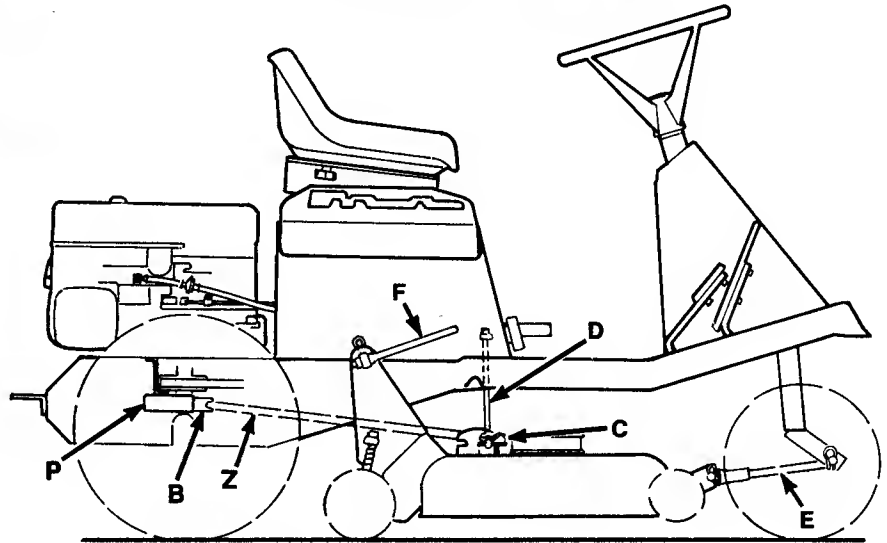
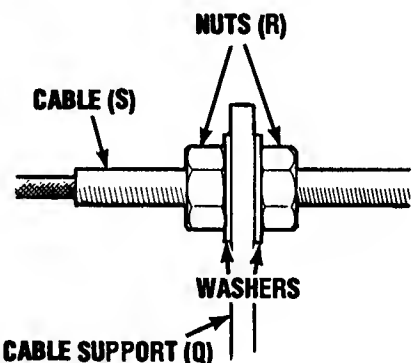
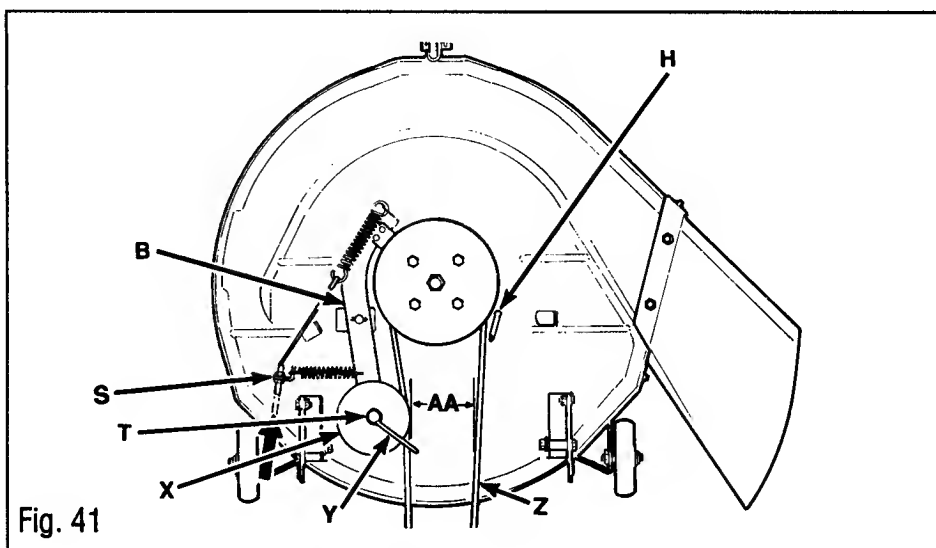

Fig. 39
Fig. 40
Fig. 41
1. Remove belt guide (P, Fig. 39)
3. Remove the belt from the engine pulley (B). It may be necessary to turn the differential to remove belt.
4. Remove hitch pins (C) and disconnect lift rods (D).
5. Remove hitch pins and disconnect pivot rods (F) from lift plate.
6. Disconnect mower drive cable cable (S, Figs. 41, 42 & 43 on the following pages) from spring (H). Loosen nuts securing cable to cable support (See Fig. 40). Remove cable from deck.
7. Remove clevis pin from the front of rod end (E, Fig. 39), releasing mower.
8. Slide mower out from under the tractor. Swing the lift rods (D) forward or backward to allow for easy removal.
1. Remove belt guide (P, Fig. 39) and loosen guides (Y & H, Fig. 41 on following page).
2. Rotate idler arm (B, Fig. 41) away from mower sheave and remove old belt.
3. Install new belt (Z) under belt guide (Y) on pulley (X).
4. Re-tighten idler pulley bolt (T). Make sure guide (Y) is in approximate position as shown.
5. Assemble belt onto engine sheave and slide belt guide (P, Fig. 39) as far forward as possible. Re-tighten guide (P). NOTE: It may be necessary to rotate differential to assemble. Check clearance between guide (P) and bolt heads on differential. A gap of 1/8" should exist.